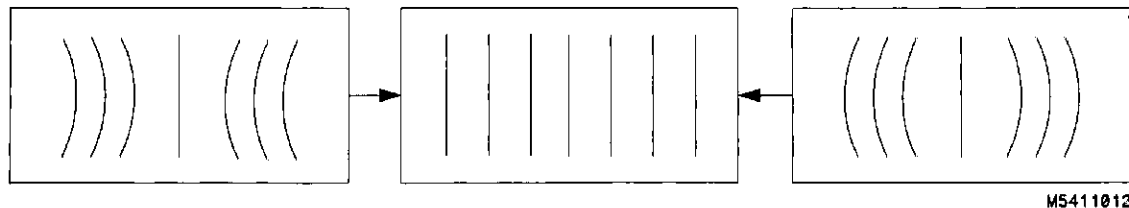

Figure 3-8. PIN AMP Adjustment.
7. Adjust PIN AMP (RV506) located on the left hand side PC board to eliminate pincushion distortion in the vertical lines of the cross-hatch pattern as shown in figure 3-8.